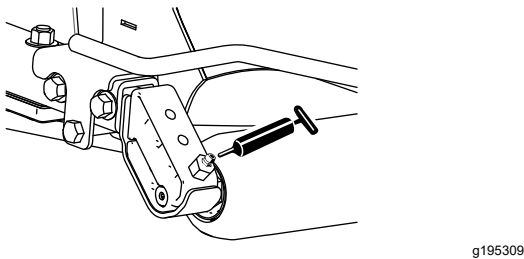

Figure 44
- 2 (per cutting unit) rear roller bearings (Figure 44)